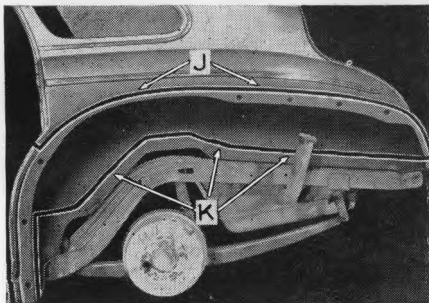

FIG. 6
7. On the outside of the body, cut along the curved edge of the wheelhouse, "J" Fig. 6, from the rear door opening to the lower rear corner of the trunk. Confine the cut to the creased or curved edge of this panel without any wavering or running off
8. As the final operation in the removal of the panel it is not necessary to cut the lower skirt of the wheelhouse exactly at the edge of the floor pan. It may be cut 2½" or 3" above the edge of the floor so as to provide a convenient strip "K" Fig. 6 for attaching the replacement panel.